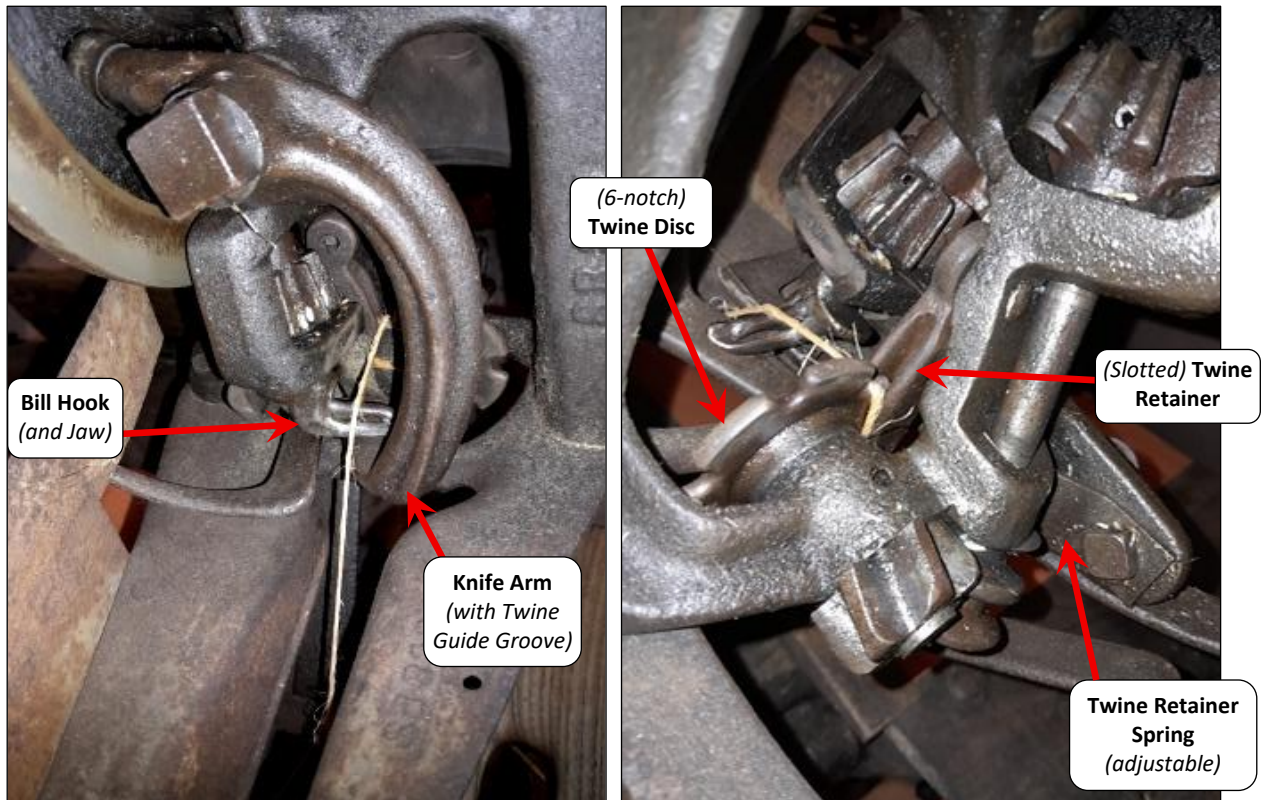

Fig.5.6 Hornsby binder knotter – Key components – **Note** slotted ‘shoe’-type Twine Retainer which presses over the edge of the (6-notch) Twine Disc
Key Features (*see Figs 5.6–5.9 and also Tables 1 & 8*)
- **Twine Disc:** **Binder:** A single-plate disc with six twine notches on its outer edge (*Fig.5.6*). Mounted with its face / edge at 90° to the underside of the Needle. Driven by a pinion, shaft, worm & gear from the Cam Gear. Rotates through 1/6 turn (60°) during each tying cycle